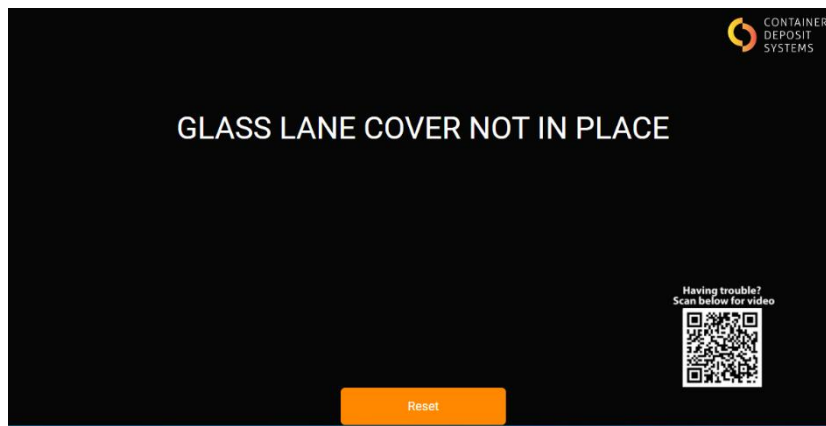

Figure 42. Conveyor cover Fault
- If the safety switch is activated the screen will appear (mixed lane shown) as in Figure 42. Conveyor cover Fault